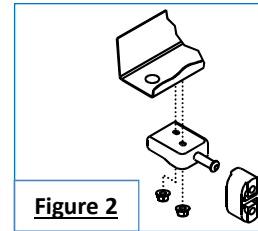

Figure 2
NOTE: Be careful that exhaust is supported before removing rubber hangers. **See Figure 2.**
- Remove factory muffler hanger bracket(s)** - Remove (2) hex nuts per hanger bracket to remove. Return bracket(s) and fasteners to vehicle owner. **See Figure 2.**